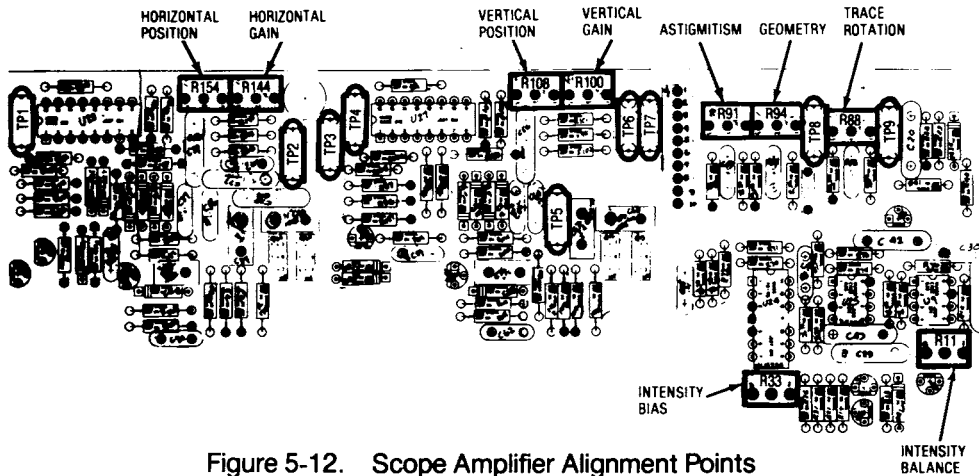

Figure 5-12. Scope Amplifier Alignment Points
2. While using the Focus Control to maintain a focused display at the center of the CRT, adjust the Astigmatism and Geometry potentiometers (Figure 5-12) for the best focus at the outer edges of the CRT while minimizing the pincushion and barrel distortion of the display. The two adjustments are interactive so that repeated small adjustments alternated between the two potentiometers will be required to obtain the best display.
2. Adjust the Intensity Bias potentiometer (Figure 5-12) until a dot appears on the screen. (The Vertical and Horizontal Position Control on the front panel may have to be used to bring the dot on to the screen.) Then back off the Intensity Bias potentiometer until the dot just disappears.
2. Adjust the Intensity Balance potentiometer (Figure 5-12) for uniform intensity of the horizontal trace from left to right. The Balance potentiometer affects the intensity on the left side of the trace.
2. With the Test Point Shorting Jumper connect TP1 of the Scope Amplifier Board (Figure 5-12) to chassis ground.
3. Adjust the Horizontal Position Potentiometer (Figure 5-12) so that the vertical trace on the CRT screen passes through the graticule center point.
2. With the Test Point Shorting Jumper connect TP4 of the Scope Amplifier Board (Figure 5-12) to chassis ground.
3. Adjust the Vertical Position Potentiometer (Figure 5-12) so that the horizontal trace on the CRT screen passes through the graticule center point.
2. Adjust the Trace Rotation Potentiometer (Figure 5-12) for a properly rotated CRT display.
3. Connect an oscilloscope with a calibrated vertical input to TP1 on the Scope Amplifier Board. (Figure 5-12).
5. With 3V p-p at TP1 adjust the Horizontal Gain Potentiometer (Figure 5-12) for a horizontal trace 6 cm long on the CRT. (Use the front panel controls to position the trace at a convenient place near the center of the CRT).
4. Connect an oscilloscope with a calibrated vertical input to TP4 on the Scope Amplifier Board. (Figure 5-12).
6. With 3V p-p at TP4 adjust the Vertical Gain Potentiometer (Figure 5-12) for a 6 cm p-p sinewave on the CRT. (use the front panel Position Controls to center the waveform on the CRT).